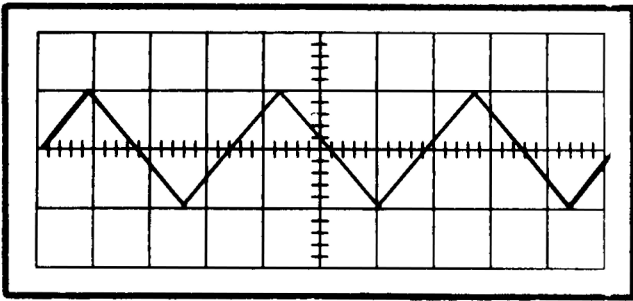

Fig. 7-5. Waveform discussed in step 20-b. Shows display when calibrating C5512F or C5562F.
b. Switch the O Unit VOLTS/CM control to .5, and the  $Z_f$  control to .0001  $\mu$ f. Adjust C5512F for A or C5562F for B. See Fig. 7-3, (20A) or (20B). The waveform should be free from overshoot, as shown in Fig. 7-5. Adjust C5512F for A or C5562F or B until the tips (top and bottom) of the waveform are exactly 2 cm in amplitude.